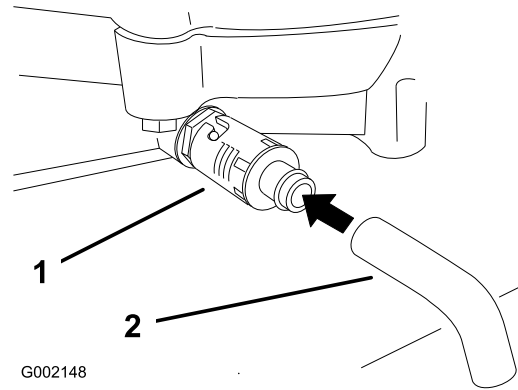

Figure 24
4. Place a pan below the drain. Rotate oil drain valve to allow oil to drain (Figure 24).